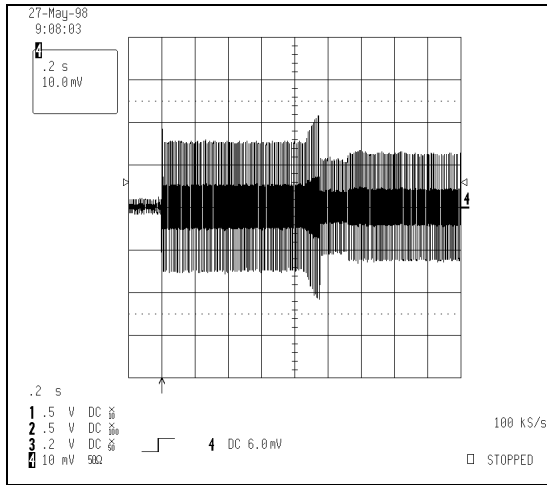
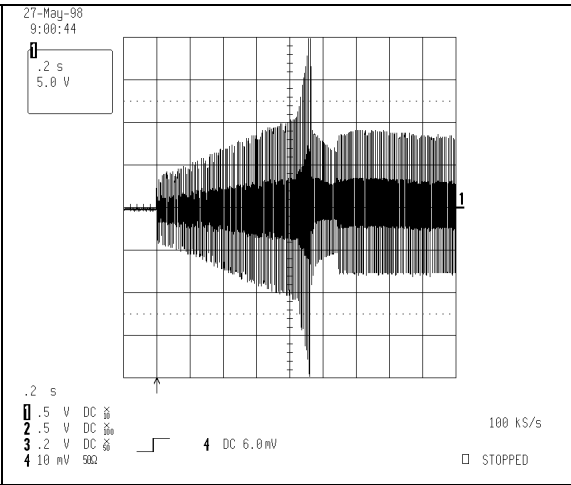

Figure 4: Lamp filament current during Startup, Preheat, Ignition Ramp and Run (500mA/div)
Figure 5: Lamp filament voltage during Startup, Preheat, Ignition Ramp and Run
When the ballast reaches the end of the UVLO mode, the Preheat mode is entered. At this point the oscillator of IC2 has begun to operate and the half-bridge output is driving the resonant load (lamp) circuit. The oscillator section of IC2 is similar to oscillators found in many popular PWM voltage regulator ICs and consists of a timing capacitor and resistor connected to ground. Resistors RT and RPH program a current which determines the ramp up time of capacitor CT and resistor RDT determines the ramp down time. The downward ramping time of CT is the deadtime between the switching off of the LO (HO) and the switching on of the HO (LO) pins on IC2. The Preheat mode frequency of oscillation is selected such that the voltage appearing across the lamp is below the minimum lamp ignition voltage while supplying enough current to preheat the lamp filaments to the correct emission temperature within the Preheat mode period. The preheating of the lamp filaments is performed with a constant current during the Preheat mode. The waveform in Figure 4 shows the lamp filament current while Figure 5 shows lamp filament voltage during the normal Startup, Preheat, Ignition Ramp and Run modes of the ballast.